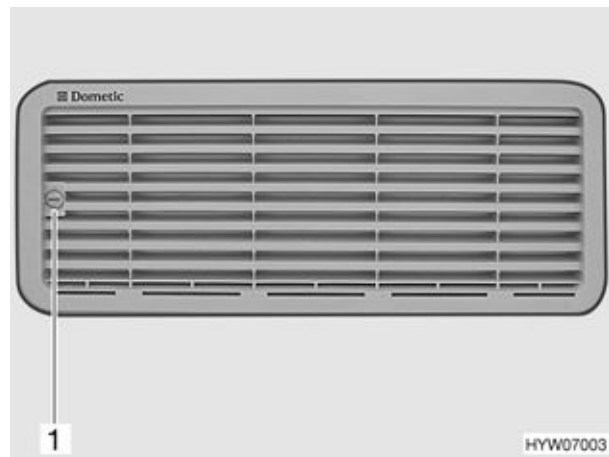

Fig. 143 Refrigerator ventilation grill (variant 1)
- Turn screw (Fig. 143,1) one quarter turn using a coin.